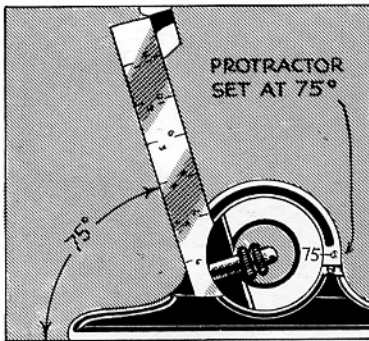

FIG. 401
8. Loosen the tool-post screw and move the tool holder until the cutting edge of the tool is approximately in line with the scribed line, or until the cutting edge coincides with the blade of the protractor set at 75° (Fig. 401).